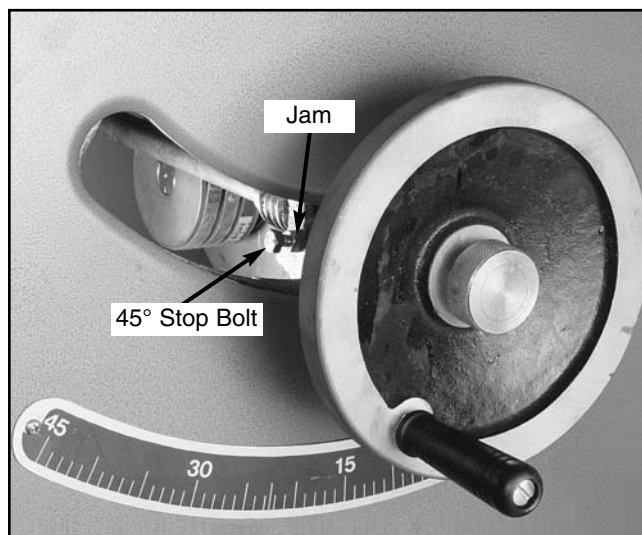

Figure 23.
4. Locate the stop bolt on the geared trunnion inside the cabinet. It is accessed through the hole in the side of the cabinet behind the blade height hand wheel. **Figure 23.**